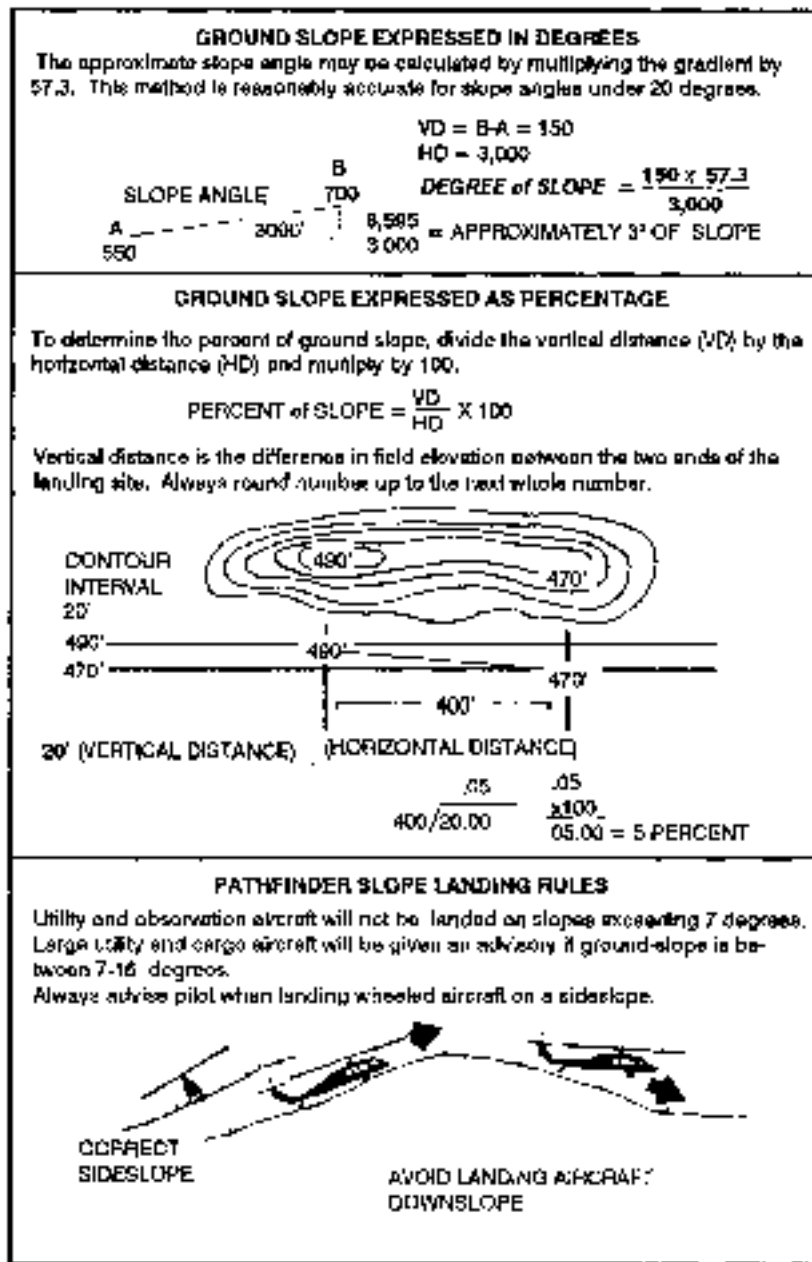

Figure 4-2. Determining ground slope.
d. **Ground Slope.** The ground should be relatively level and the slope should not exceed 7 degrees if the helicopter is to land safely (Figure 4-2). However, observation and utility helicopters can terminate at a hover over ground slopes exceeding 7 degrees to load or to off-load personnel or supplies. Large utility and cargo helicopters